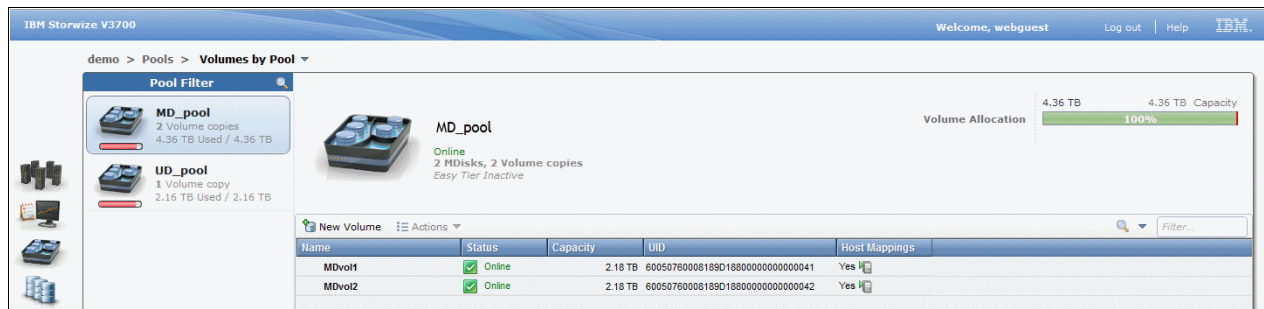

Figure 9-8 Listing volumes
- You can also see the volumes that are created by using the GUI and going to the Volumes menu (Figure 9-8).